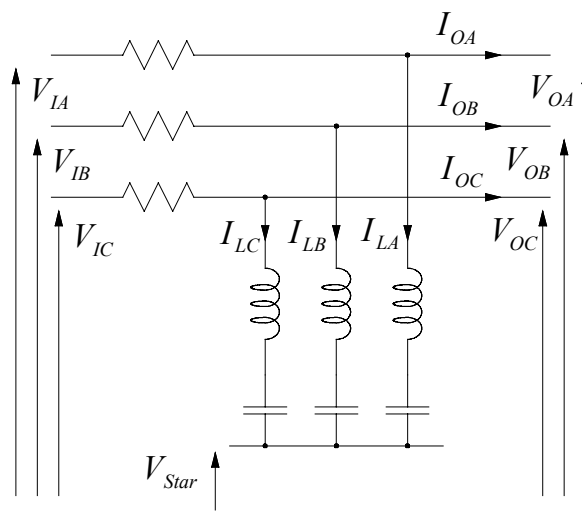

Figure 1, A three-phase passive network
- (b) Write a set of voltage and current equations to describe the three-phase circuit shown in Figure 1 and transform them to dq form. [8]